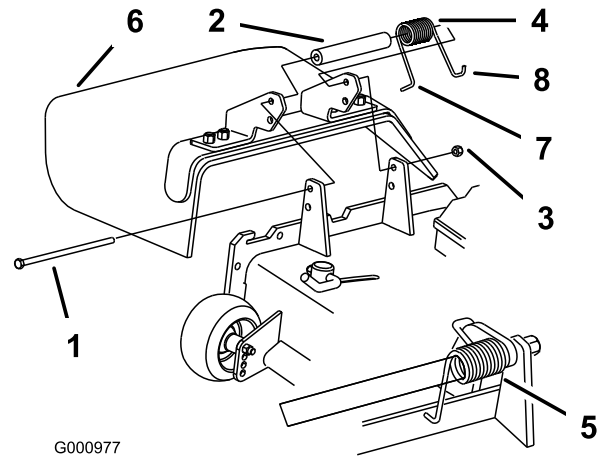

Figure 36
1. Remove the locknut, bolt, spring and spacer holding the deflector to the pivot brackets (Figure 36). Remove the damaged or worn grass deflector.
Note: Make sure the **L** end of the spring is installed behind the deck edge before installing the bolt as shown in Figure 36.
3. Install the bolt and nut. Place the **J** hook end of the spring around the grass deflector (Figure 36).